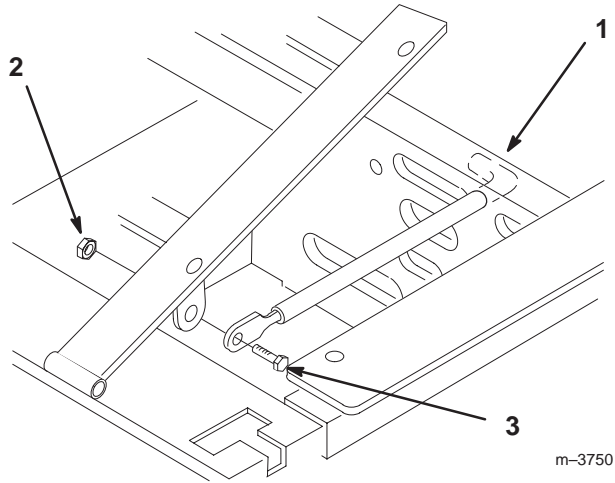

Figure 3
1. Tilt seat up. Remove locknut (5/16 inch) from bolt attaching seat retaining rod to seat frame (Fig. 3).
- Remove retaining rod from seat and insert the **L** shaped end of the rod into the hole directly above the left-side hydraulic pump (Fig. 3).
- Place the seat retaining rod to the outside of the mounting tab of the seat frame and secure with one bolt (5/16 x 1 inch) and locknut (5/16 in.) (Fig. 3).